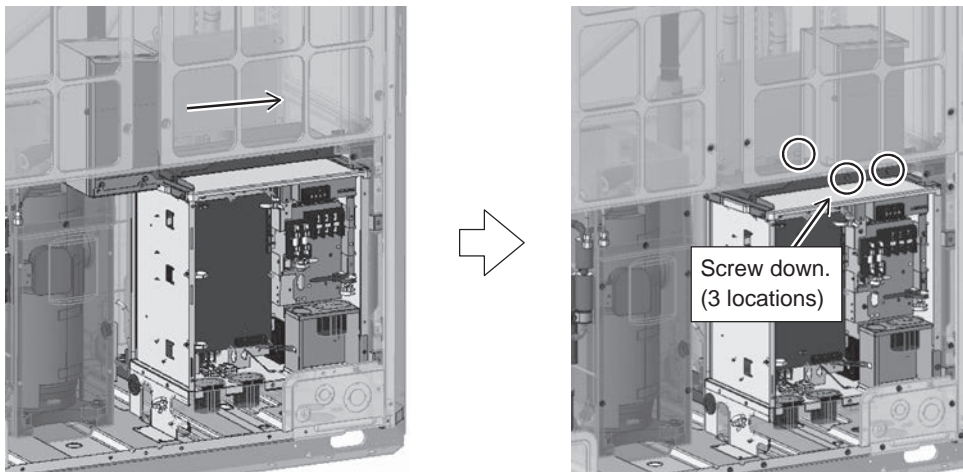

Figure 5
- (4) Lift the transformer box to the position as shown in the figure, move the box to the designated position, and screw it down. (3 screw as shown in Figure 5.)